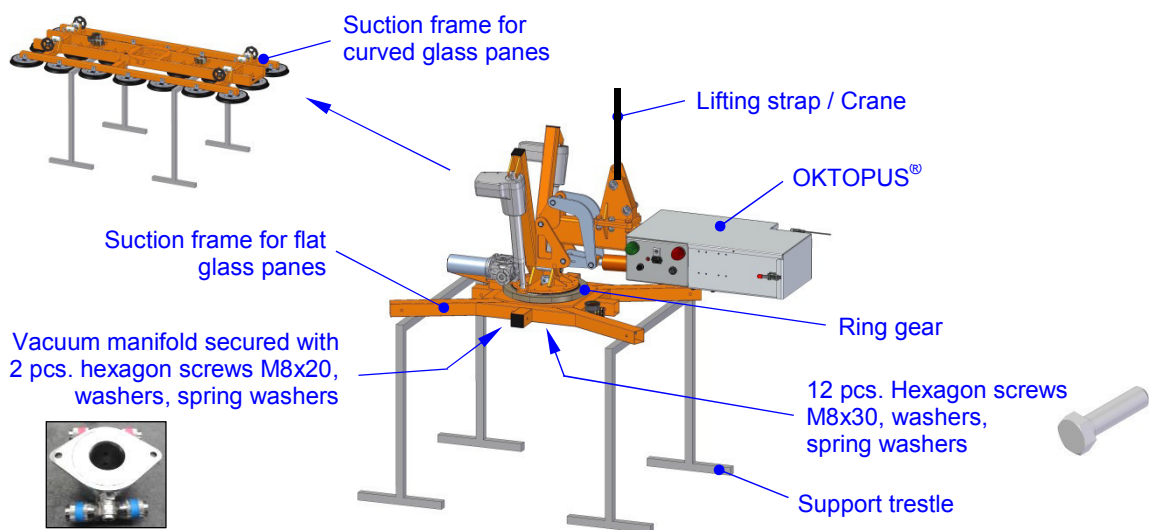

Fig. 12: Changing the suction frame
- ⇒ Remove all 8 suction pads from the suction frame and bring the suction frame into position as shown in figure 12. Leave the crane rigged during the entire dis-/assembly time. Make sure that the crane ropes are always stretched.
- ⇒ Disassemble the vacuum manifold (s. Abb. 12) as follows: